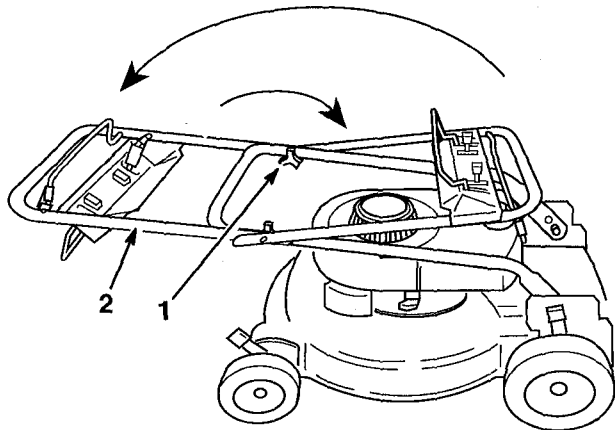

Figure 55
2. Rotate handle toward front of mower (Fig. 55).